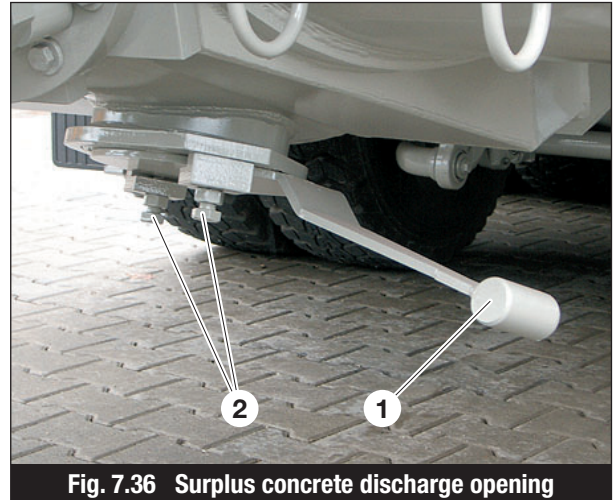

Fig. 7.36 Surplus concrete discharge opening
- Strike the cover (Item 1, Fig. 7.36) of the drain valve lightly with a hammer to open it. If the cover is too slack or too stiff, adjust the clamping screws (Item 2, Fig. 7.36).